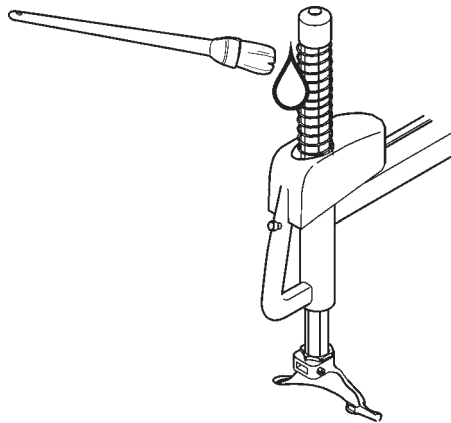

Fig. 6.0-1
A. Periodically clean the vertical hexagonal rod with liquid detergent. After this immediately lubricate with a light lubricating oil (Fig. 6.0-1).